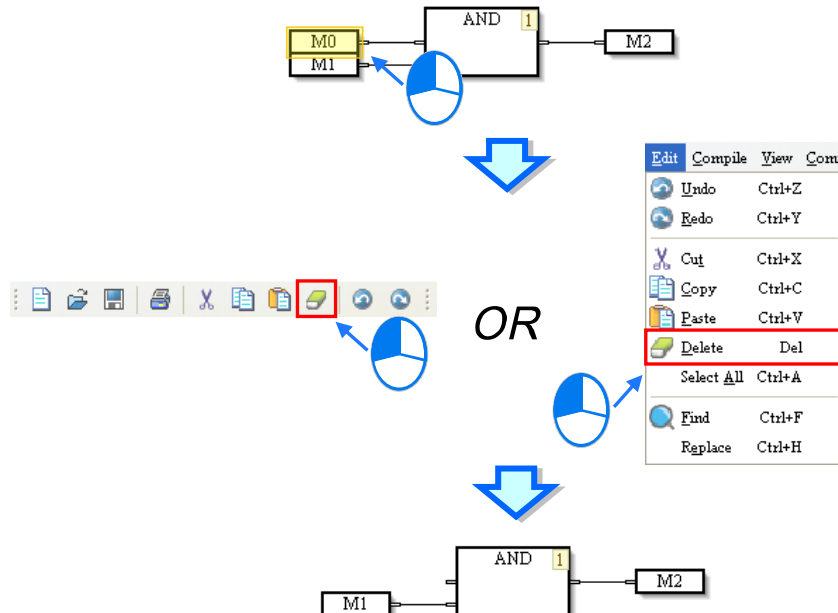

Figure 12-33 Deleting an object
- (1) The users have to click an object, and click **Delete** on the **Edit** menu, or  on the standard toolbar, as shown in figure 12-33.